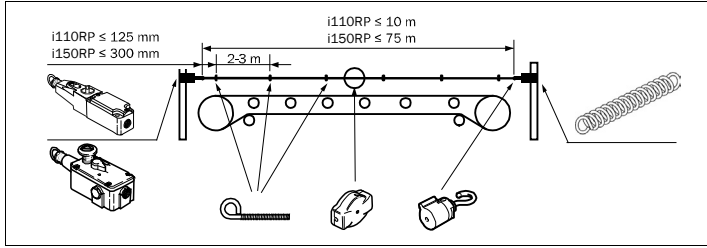

Fig. 3: Example rope guidance and arrangement of the individual parts with 1 rope pull switch and 1 tensioning spring.
- Hook the 2nd rope clamp into the 2nd rope pull switch. For rope lengths < 10 m / < 75 m, a tensioning spring can be used instead of a second rope pull switch (needs to be ordered separately) (Fig. 3).